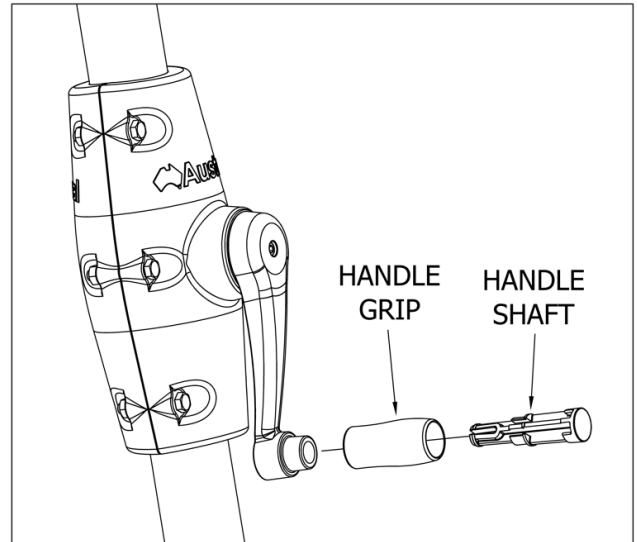

Fig 3. Fit Handle.
1. Fit the handle grip. You may find it easier to use a block of timber behind the handle. Give the end of the handle shaft a short swift tap with a hammer to lock the handle assembly into place. (Fig 3).